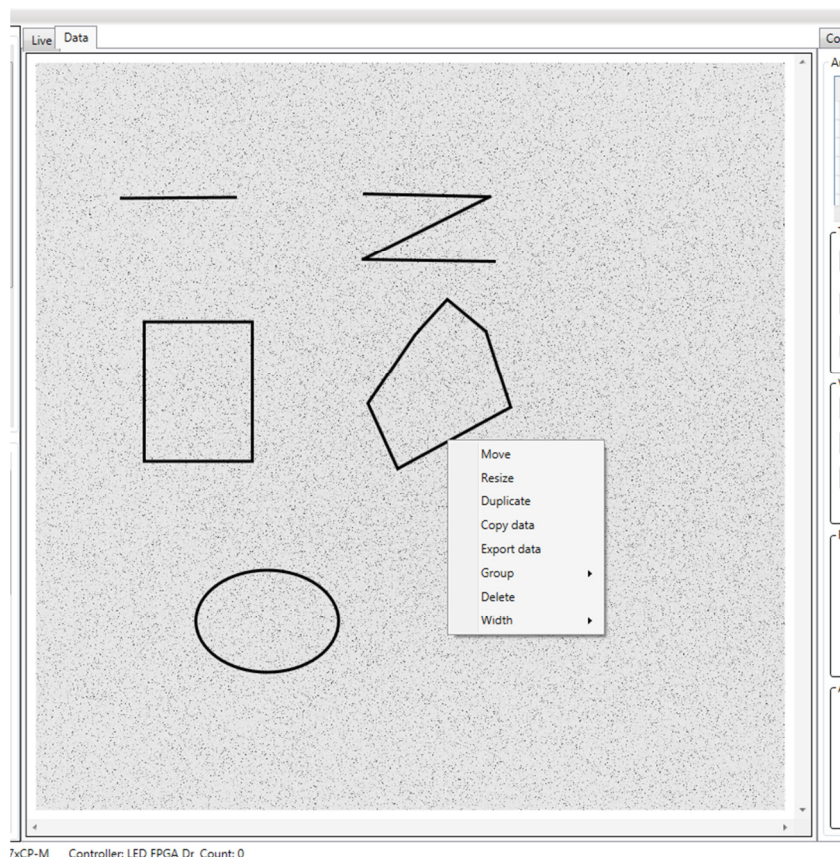

Figure 14 Shape Tool Options
**Shape Tool Options:** A variety of functions are available for each shape as well. These are shown in Figure 14 and are accessed by right clicking on the shape.